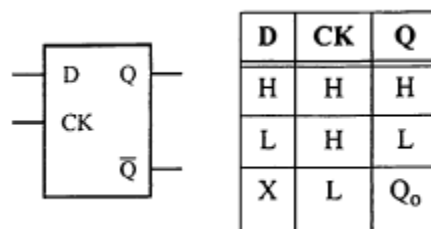

Figure 10.2 Data Latch (7475).
There are many digital circuit applications where you may need to store data for later use. One way to do this is through the use of flip-flops. The bistable data latch (see Fig. 10.2) is a flip-flop that is useful in many applications. The data latch has a data input (D), a clock input (CK), and output Q. Most flip-flops include complementary outputs where Q is the inverse of \bar{Q} . With a data latch, the data input gets passed to or blocked from the output depending upon the clock signal. When CK is high, $Q=D$ (i.e., the output tracks the input). When CK is low, the D input is ignored and the last value of Q (the value of D when CK last went low) is stored (latched). This memory state of the flip-flop (when CK is low) is indicated in the truth table with Q_0 (the last value latched). The entire functionality is summarized in the truth table shown in Fig. 10.2. An X in a truth table indicates that a signal value may have either value (H or L). For example, for the data latch, when CK is low, the input D has no effect on the output Q.